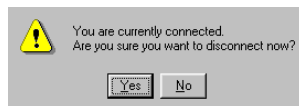

Figure 36: HyperTerminal dialog box (1)
12. Choose **Exit** from the **File** drop-down menu. A HyperTerminal dialog box displays, as shown in Figure 36.